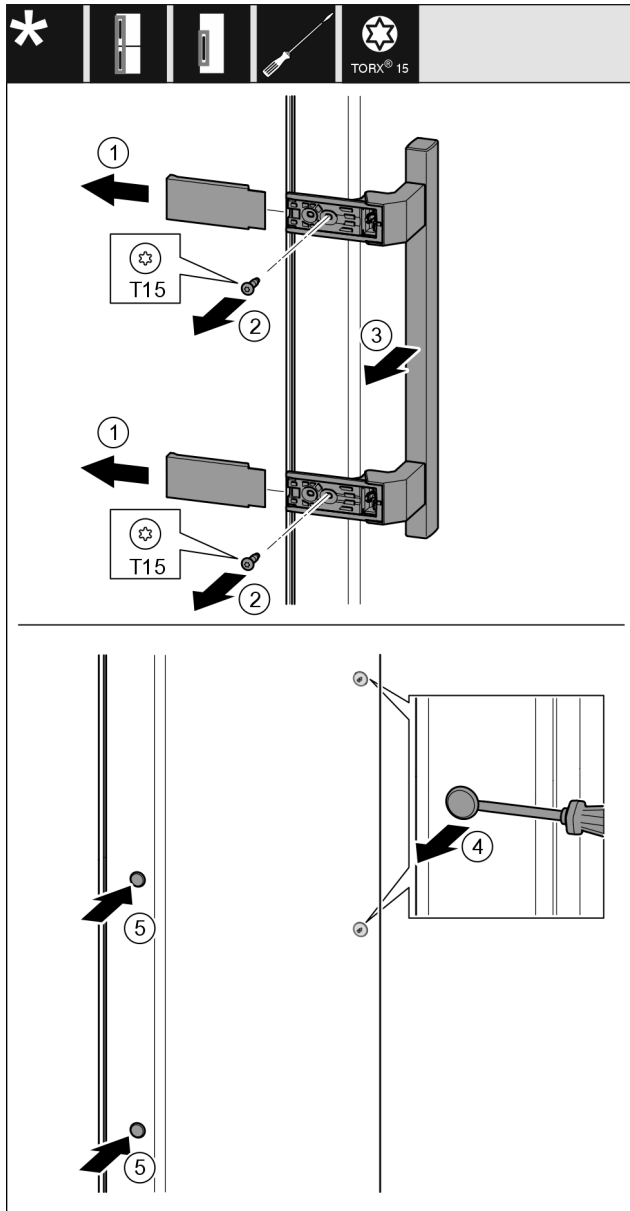

Fig. 42
- Remove the cover Fig. 42 (1).
- Unscrew screws Fig. 42 (2) with screwdriver.
- Remove the handle Fig. 42 (3).
- Use a slotted screwdriver to lift the side plug Fig. 42 (4) carefully and pull it out.
- Re-insert the plug Fig. 42 (5) on the other side.